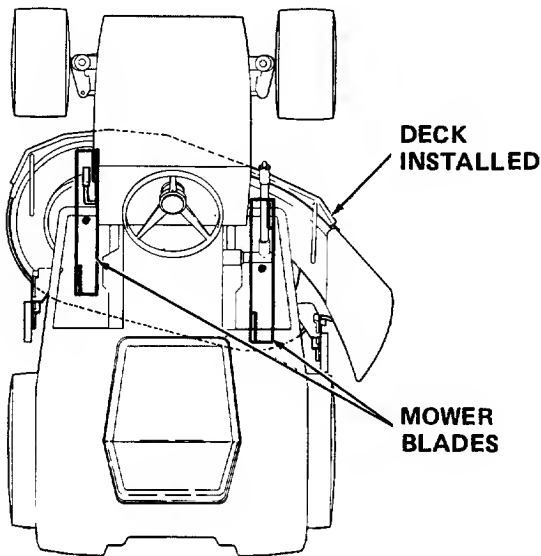

Figure 30
4. Position the mower blades so that the ends of each blade face the front and rear of the tractor. (Refer to Figure 30.)